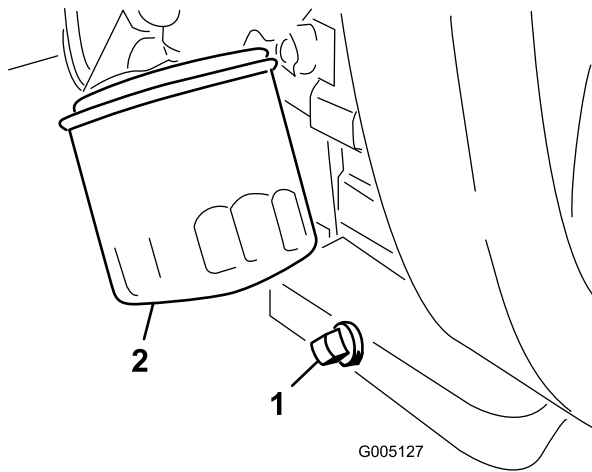

Figure 34
- Remove the drain plug (Figure 34) and let oil flow into a drain pan. When the oil stops, install the drain plug.
- Remove the oil filter (Figure 34). Apply a light coat of clean oil to the new filter gasket.